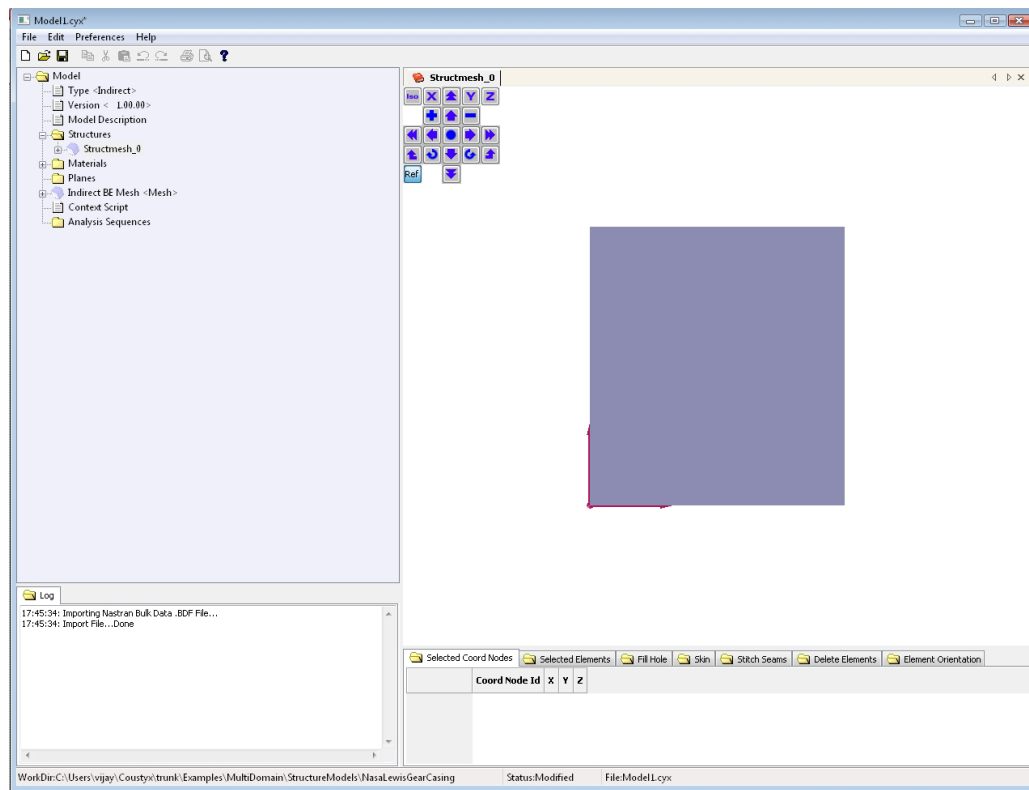

Figure A.31 Structure mesh opened in Coustyx GUI.
- Right-click on **Structmesh_0** or *<Struct Mesh Name>* and select: **Open** to view the structure mesh in the GUI. The structure mesh will appear as shown in Figure A.31.